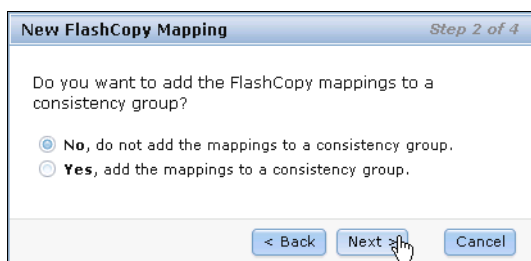

Figure 9-19 Add FlashCopy mapping to a consistency group
- b. In the next step, you could add your FlashCopy mapping to a consistency group (Figure 9-19). If the consistency group is not ready, the FlashCopy mapping can be added to the consistency group afterward. Click **Next** to continue.